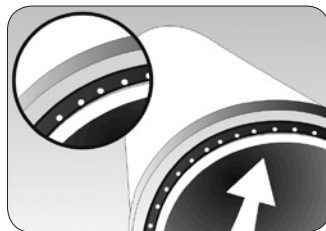

Figure 10
- Ensure the cover O-ring is in the correct position with the holes facing out (Figure 10).